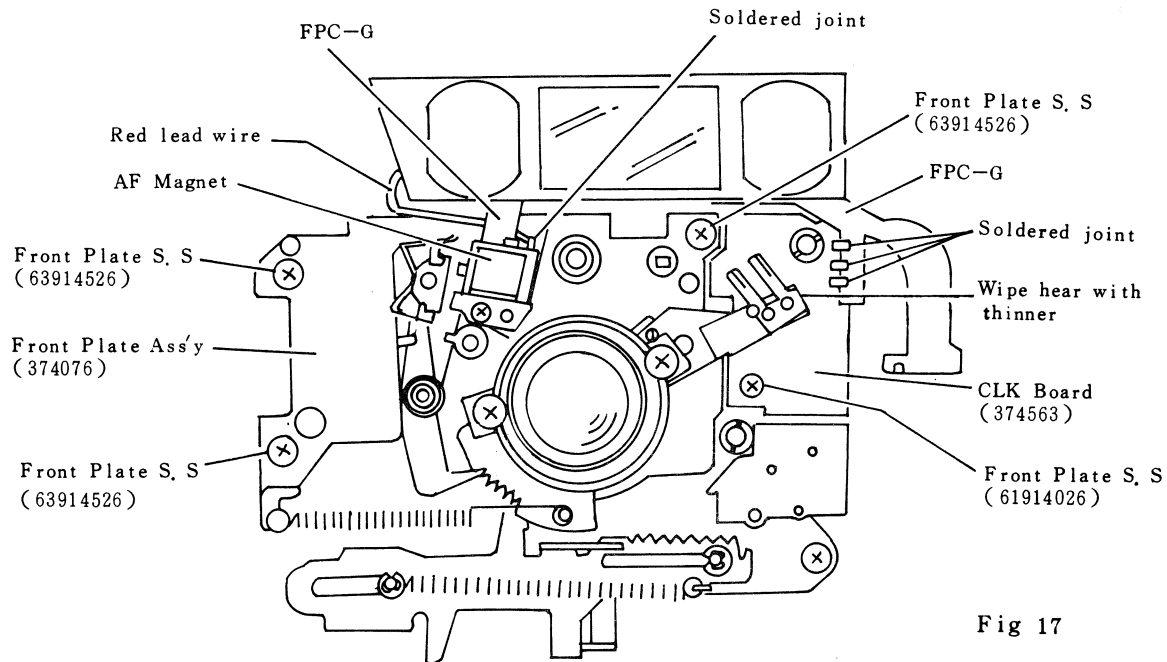

Fig 17
- c) Use thinner to clean the surface of CLK Board (374563) where it makes contact with contact of Focusing Ring Ass'y, after three soldered joints of FPC-G and CLK Board. See (Fig 17).